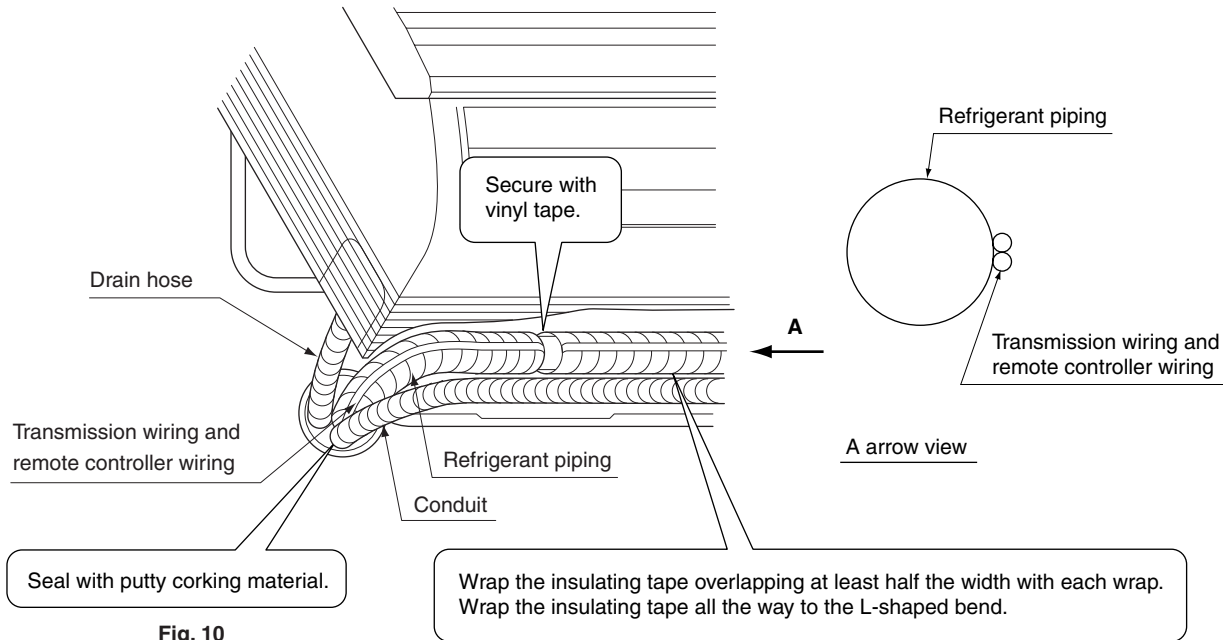

Fig. 10
(8) Pass power supply wiring and ground wiring threaded through conduit. and remote controller wiring through the wiring guide in through the back of the indoor unit and to the front. For connecting the conduit to the unit, see Section 8-1, **HOW TO CONNECT WIRINGS**.
(9) Connect the piping referring to Section 5, REFRIGERANT PIPING WORK and Fig. 10